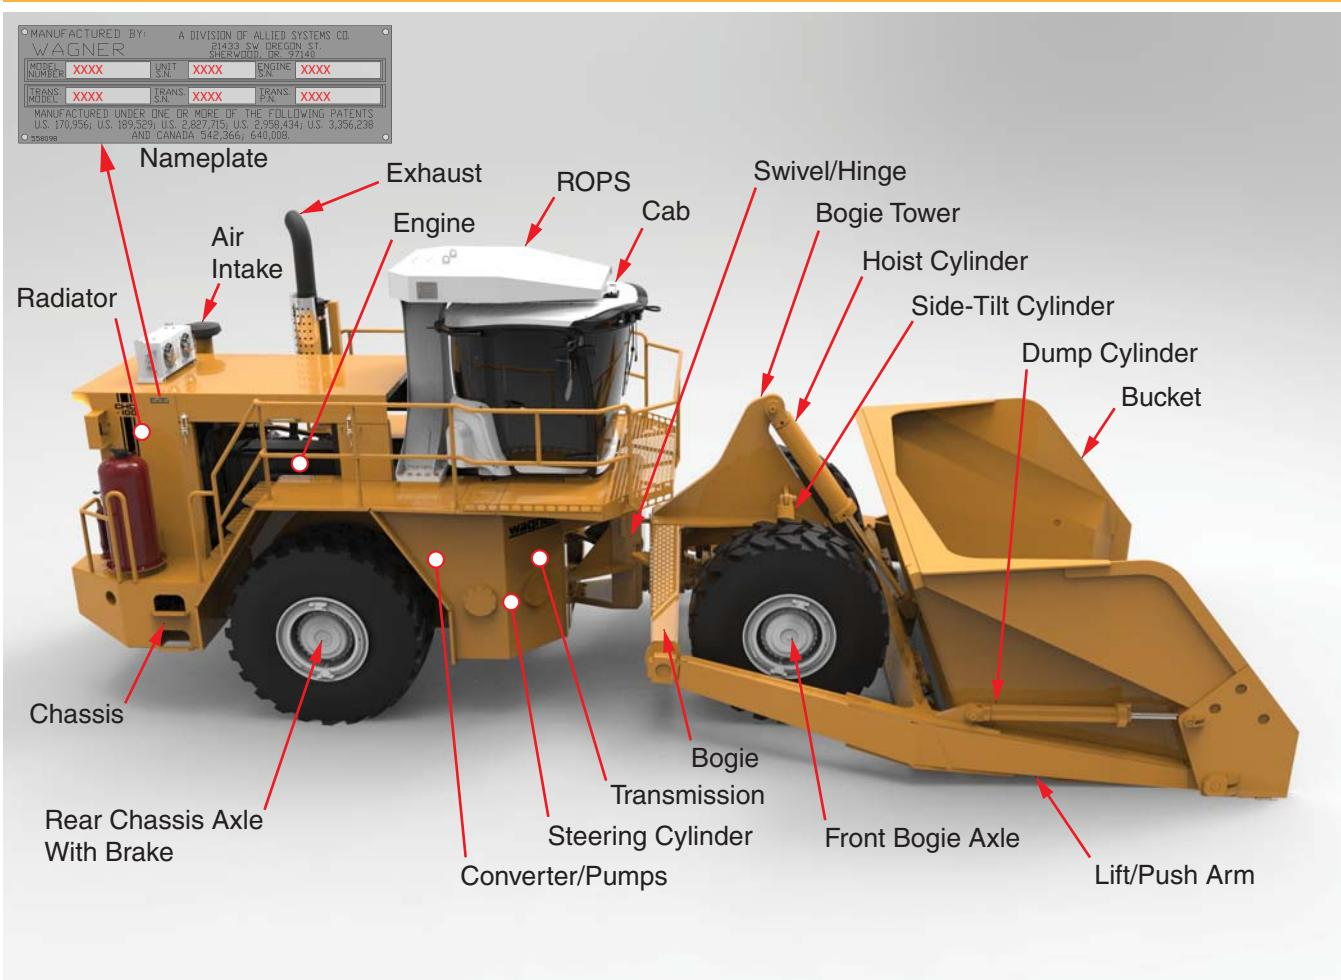

Figure 1-3-2 Terminology (Model CHD100 Shown for Reference)
Additionally, the nameplate, mounted on the side of the machine, provides the model and serial number of your vehicle. See Figure 1-3-2.
**NOTE:** The Serial Number stamp or nameplate location may vary on your machine. The nameplate location shown in Figure 1-3-2 is typical.
Refer to Figure 1-3-2 for terminology of components of your Carrydozer. Understanding and using this terminology when discussing your machine with your dealer, or with Allied Systems, will reduce confusion.
Additionally, many of these terms are used throughout this manual. Refer to Figure 1-3-2 for reference.